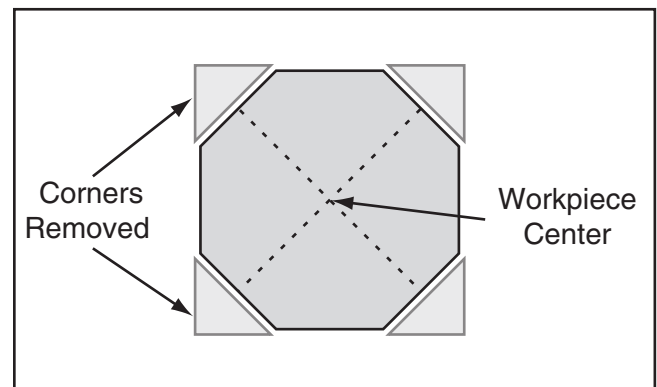

Figure 40. Corners of workpiece removed.
5. If your workpiece is over 2" x 2", cut the corners off the workpiece lengthwise to make turning safer and easier (see **Figure 40**).